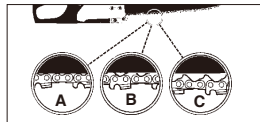

Fig. 5
**CAUTION:** If saw chain is TOO LOOSE or TOO TIGHT, the sprocket, bar, chain, and crankshaft bearings will wear more rapidly. Study Fig. 5 for information concerning correct cold tension (A), correct warm tension (B), and as a guide for when saw chain needs adjustment (C).